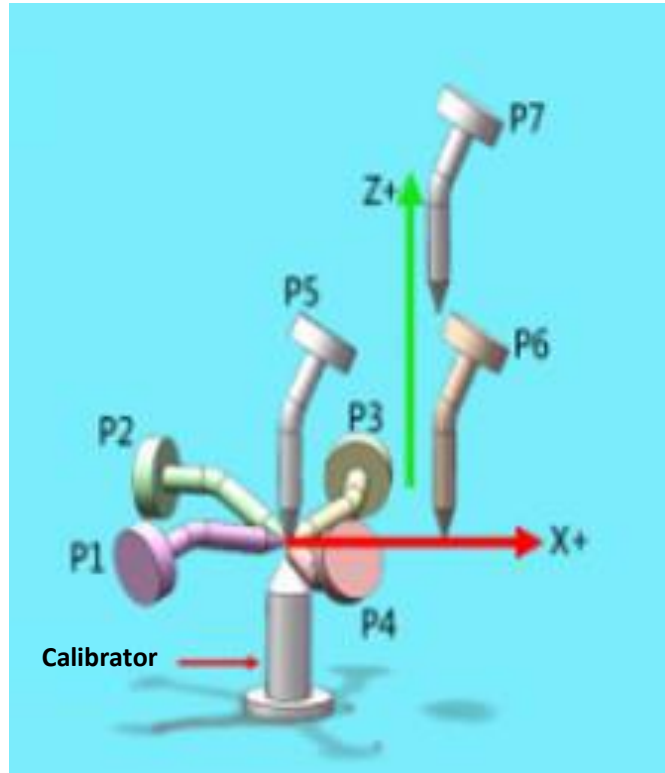

Fig. 2.12 7P Setting of Tool Coordinate Poses
The 7P method is adopted to set the tool coordinate poses as shown in Fig. 2.12. The control poses P1-P5 should always contact with the sharp points of the calibrator and the poses of P1-P4 should be as different as possible. When teaching P5, the end of the tool must be linear with the calibrator. P6 is used to determine the direction of tool coordinate X and P7 to determine the direction of tool coordinate Z. During teaching, P7 can move a distance towards tool coordinate Z based on P6.
5. Teach 7 poses in sequence according to the requirements of Fig. 2.12.
4P setting steps: Enter the tool coordinate system setting interface, select the 4P method and teach P1-P4 in Fig. 2.12 according to the pose requirements. Please refer to the 7P method for specific operating steps.